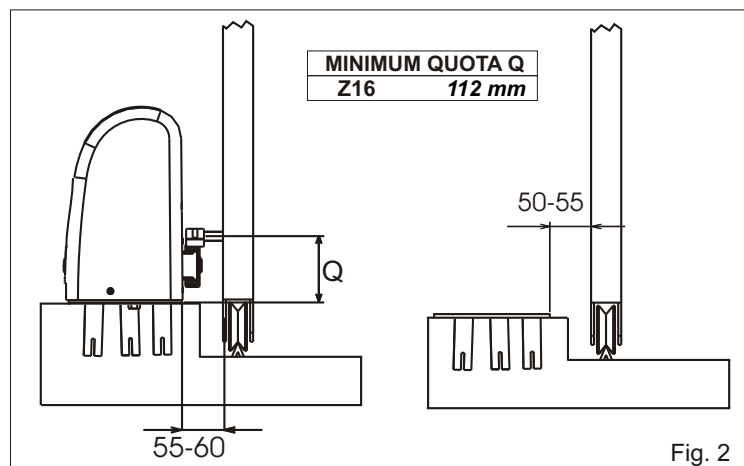
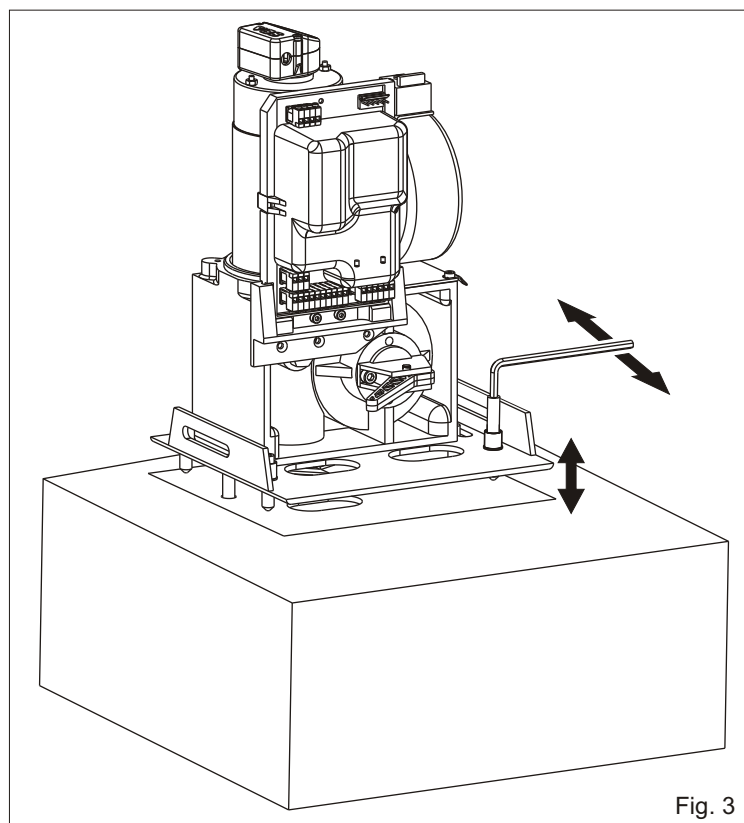

Fig. 2
Fig. 3
2.3. When concreting in the plate check that the plate is perfectly levelled and that the measurement of 50 - 55 mm given in Fig. 2 is followed.
3.2. Adjust the motor reducer height using the four supplied grains (Fig. 3) respecting the quotes mentioned in Fig. 2. The adjusting grains can be used to correct a previous and imperfect levelling of the foundation plate.